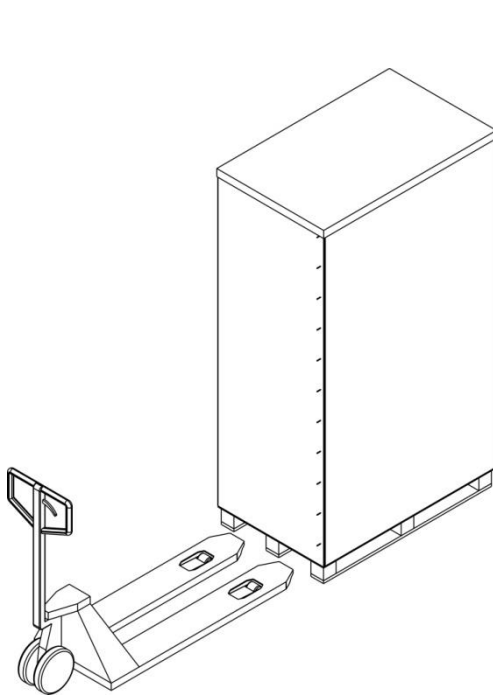

Figure 3-9
1. Use a forklift to move the product to installed area. Refer to Figure 3-9.